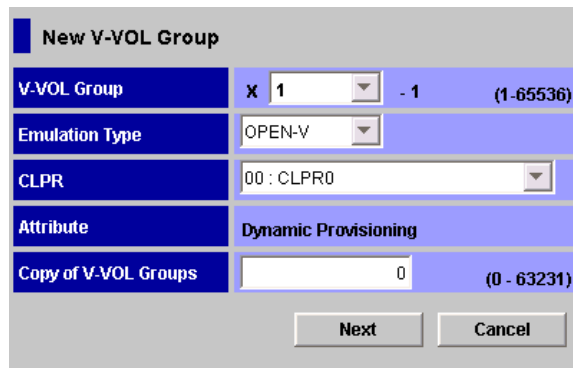

Figure 5-7 Creating a New V-VOL Group (1)
3. In the **New V-VOL Group** dialog box (see Figure 5-7):